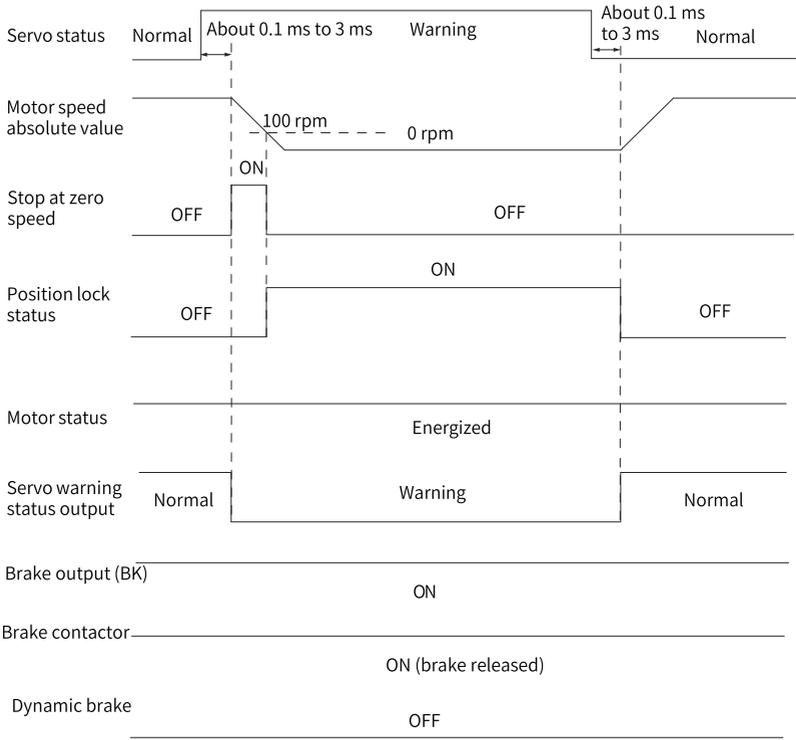

Figure 6-24 Sequence for alarms that cause stop
- When a No. 3 alarm occurs on the servo drive, such as E900.0 (DI emergency braking), E950.0 (Positive limit switch warning), and E952.0 (Negative limit switch warning), the servo drive stops according to "Figure 6-24 Sequence for alarms that cause stop" on page 135.